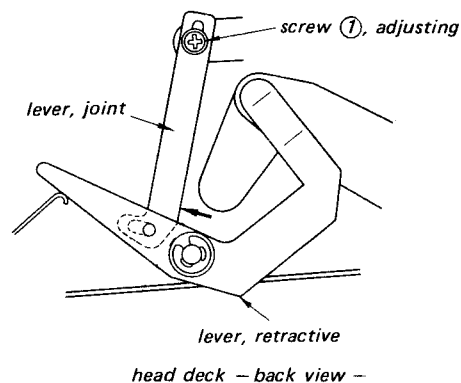

Fig. 11-7 Pinch roller stroke adjustment
- (3) Fix the screw ① while pushing the joint lever in the direction shown with arrow in Fig. 11-7.
- (4) Put the dummy capstan  $\times$  into the capstan bearing and be sure that the pinch roller shaft moves by approx. 3~4 mm ( $1/8 \sim 5/12$  inch) on the surface of the retractive lever when the function selector knob is changed from STOP to FWD.
- (5) Be sure that the washer for the pinch roller shaft does not come in contact with the part indicated with  $\blacktriangle$  on the retractive lever when the function selector knob is changed slowly from FWD to FF.
- (6) After the adjustment, apply lock paint to the screw.